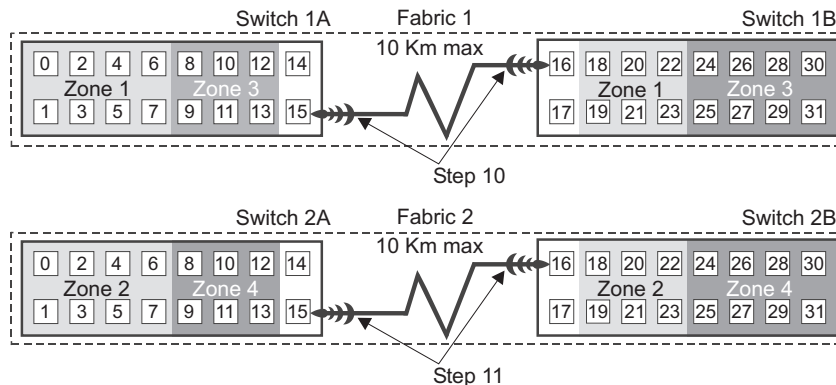

Figure 43. Connecting the switches over a remote network to complete Fabric 1 and Fabric 2 environments
10. Complete the Fabric 1 environment for Switch 1 by connecting Switch 1A with Switch 1B. Connect each end of a long range fibre-channel cable (that can support a distance up to 10 Km (6.25 mi)) to an unzoned port in each switch, as shown in Figure 43.
11. Repeat step 10 for Switch 2A and 2B to complete the Fabric 2 environment for Switch 2, as shown in Figure 43.